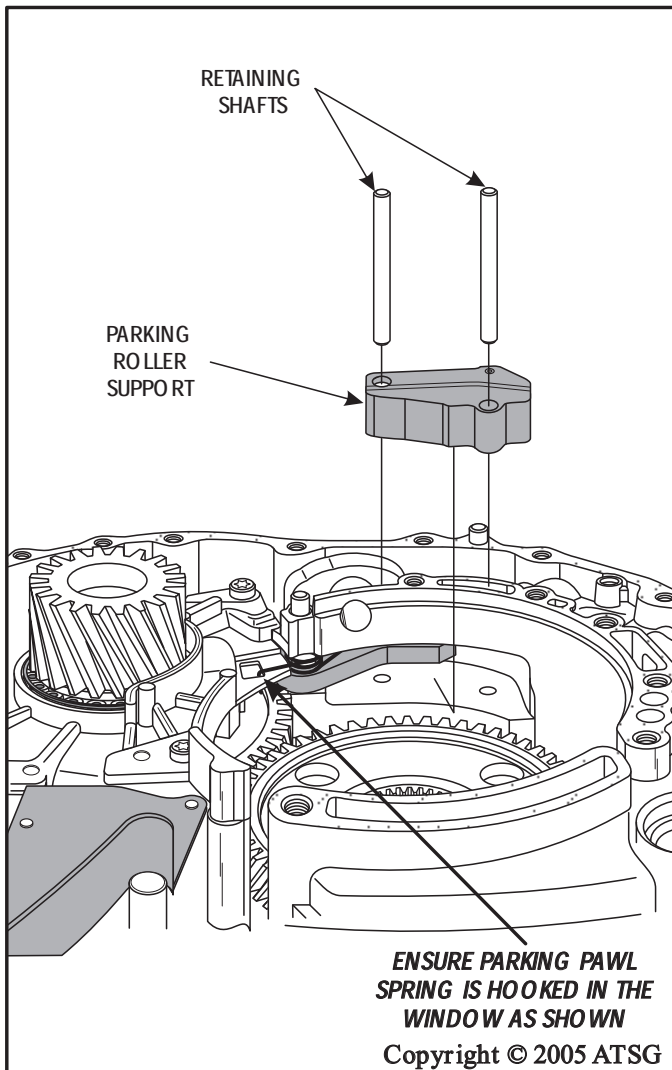

Figure 165
25. Hook the parking pawl return spring in the window of bearing support (See Figure 165).
26. Install the parking roller support, as shown in Figure 165, and install the retaining pins.
Note: Check once again to ensure that park pawl return spring is hooked in the window, as shown in Figure 165.